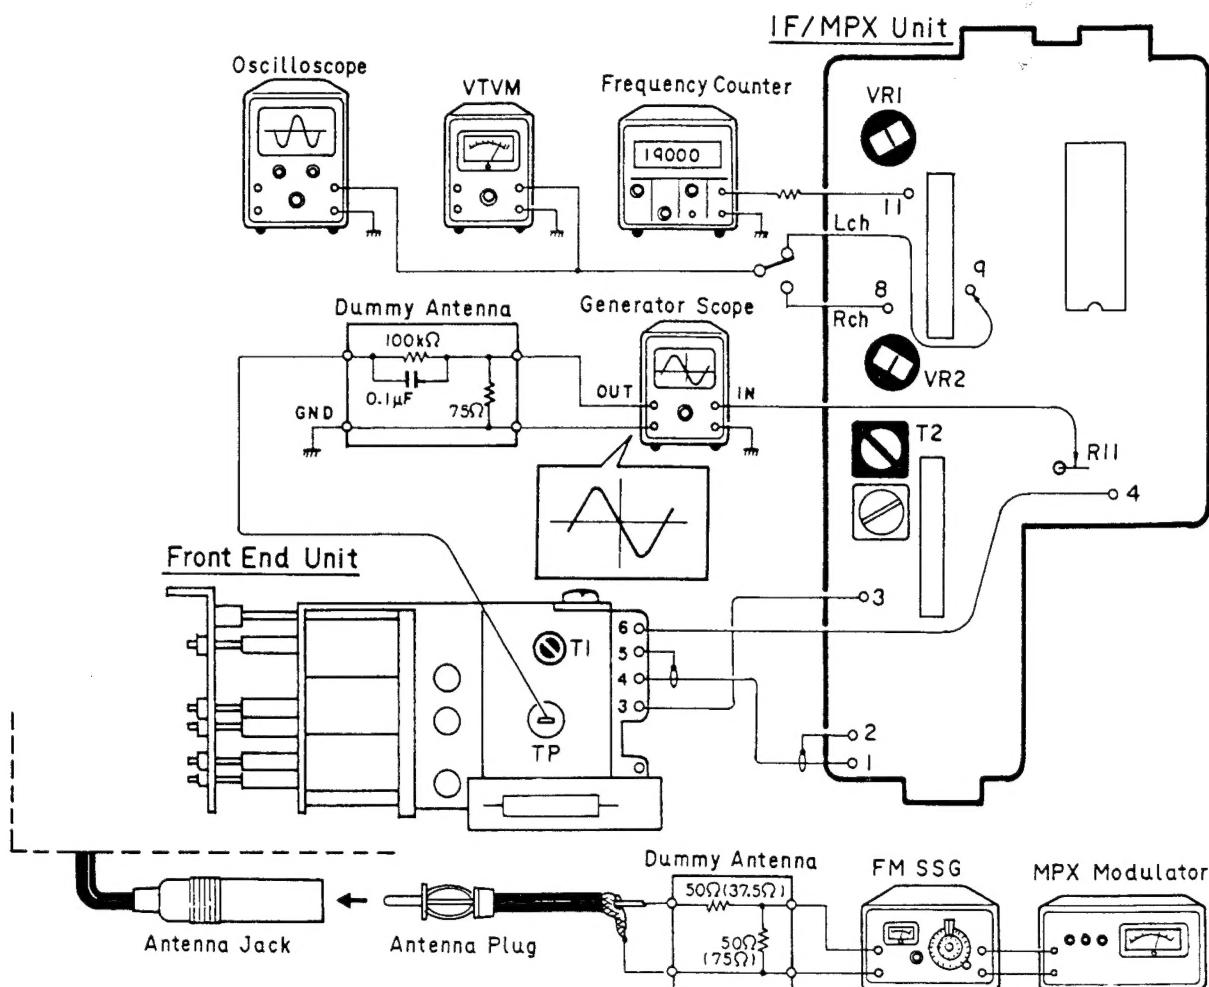

Fig. 8
2. A waveform shown in Fig. 8 is obtained on the generator scope when the hook-up is made as illustrated above and the power source is applied to.
- **Connection Diagram (Shown in Fig. 8.)**